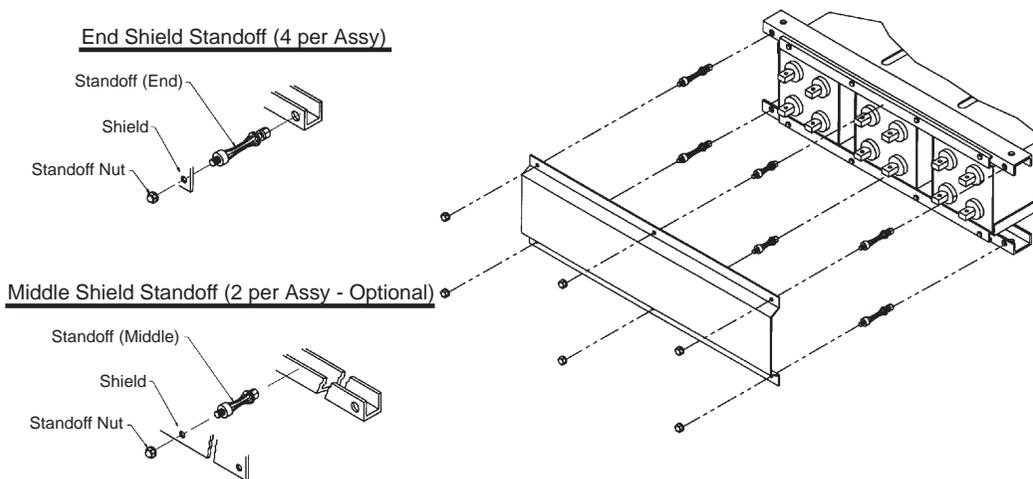

Figure 6-12: Module Shield Assembly
1. Remove the clear protective covering from the shields, attach the standoffs to the front shields, and fasten the nuts as shown in Figure 6-12.